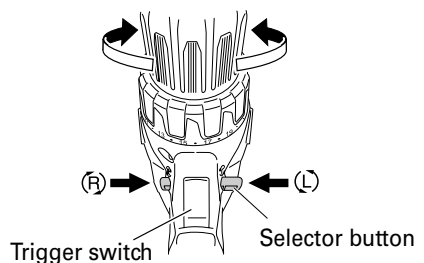

Fig. 10
The bit rotates clockwise (viewed from the rear side) by pushing the R-side of the selector button. The L-side of the selector button is pushed to turn the bit counterclockwise (See Fig. 10). (The (L) and (R) marks are provided on the selector button.)